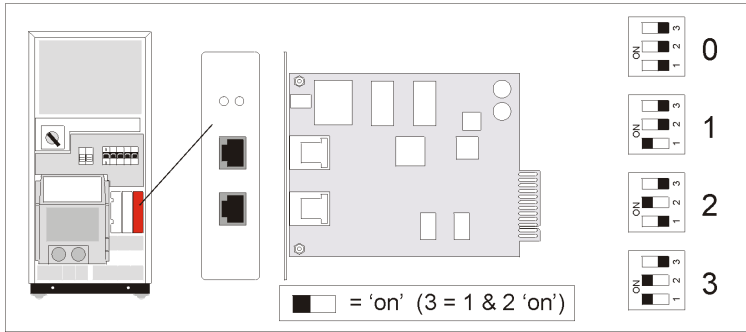

Figure 18. Appointing a unique number to each UPS in the system
- The right option slot (14) at the rear of the unit contains the the RPA-card. Before the parallel system can be put into operation a unique number has to be appointed to each UPS in the system. This can be 0, 1, 2 or 3. Start with 0 for the first unit, 1 for the second, 2 for the third and 3 for the last unit:
- set the dipswitch to the appointed number (fig. 18)